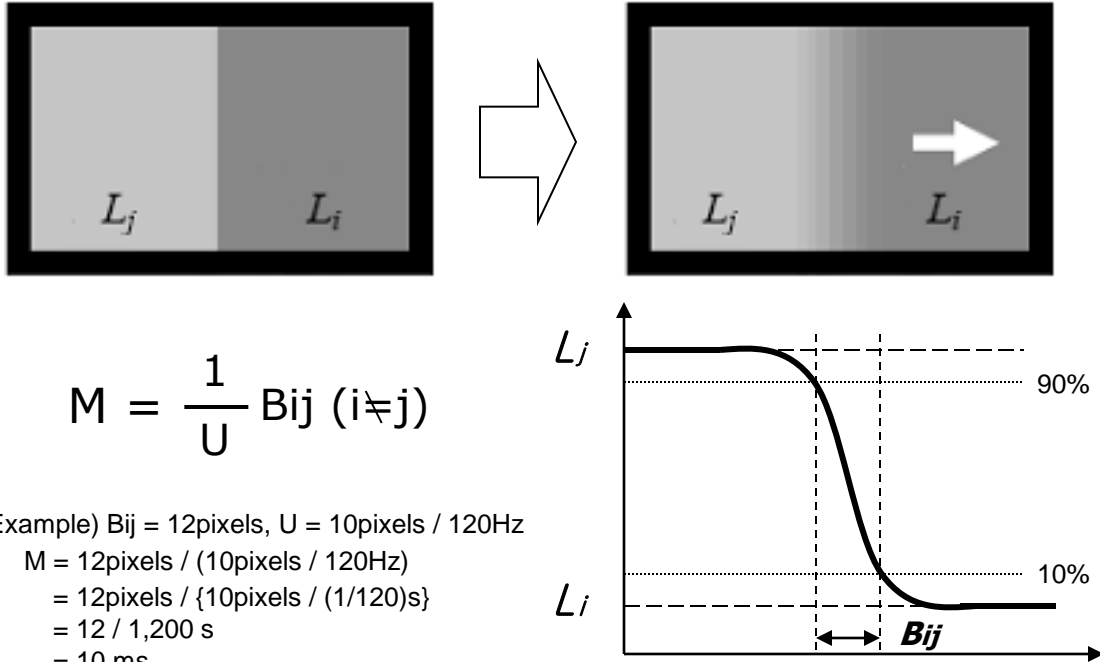

FIG. 4 MPRT
4. Viewing angle is the angle at which the contrast ratio is greater than 10. The angles are determined for the horizontal or x axis and the vertical or y axis with respect to the z axis which is normal to the LCD module surface. For more information, see the FIG. 4.